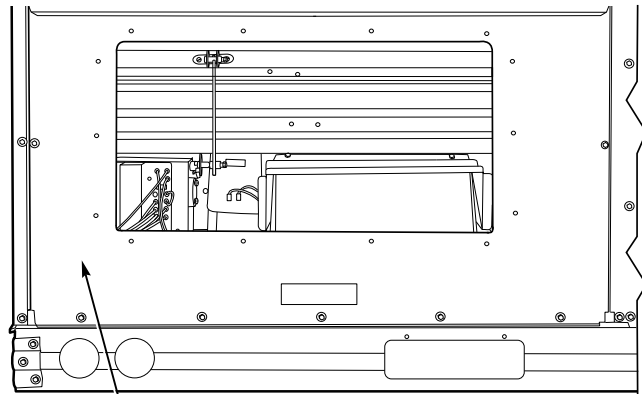

**Fig. 29 — PARABLADE Economizer Installed in Unit**
5. Slide economizer into unit and secure with screws. See Fig. 29.
6. Insert economizer plug into economizer harness. Remove tape from barometric relief damper. See Fig. 29.